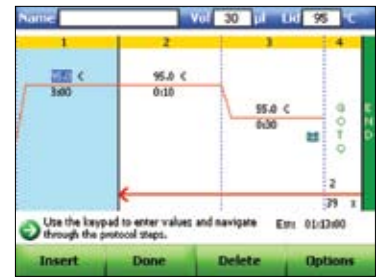

Fig. 10. Default real-time PCR protocol.
- To create a new experiment, select **New Protocol** (F4) in the main menu to open a new protocol template (Figure 10); use the arrow keys to navigate to the Protocol Name field, then press the alphanumeric keys to enter a protocol name to save